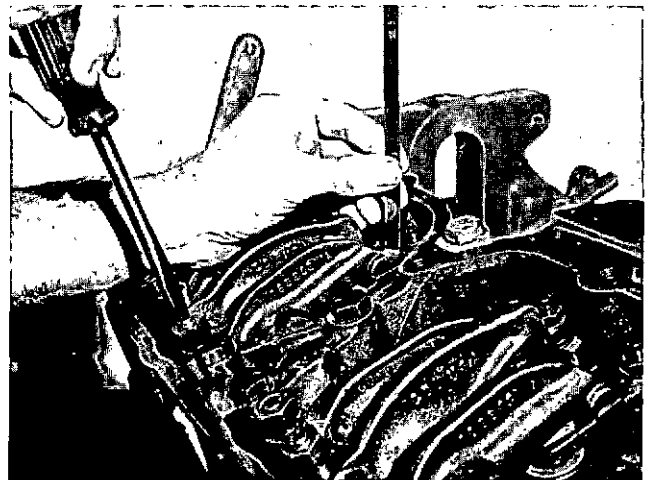

Fig. 5-39. Adjust valves
2. Loosen locknut and back off adjusting screw. Insert feeler gauge between rocker lever and top of crosshead. Turn screw down until lever just touches gauge and lock adjusting screw in this position with the locknut. Fig. 5-39. Torque locknut to values indicated in Table 5-6; note Step 3 under "Injector Plunger Adjustment".